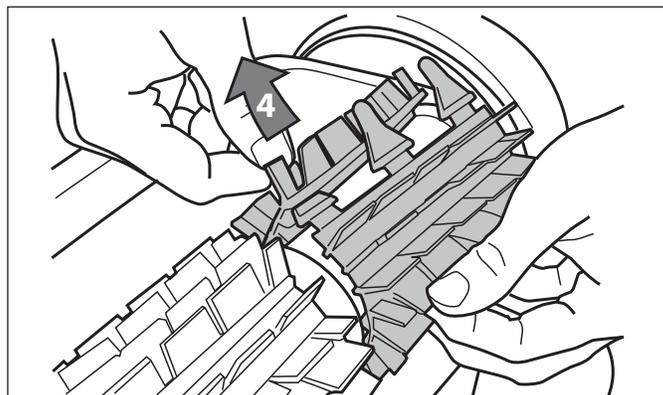

Figure 31. Pull Tabs Through Each Slot
4. Thread each tab into the slot provided and gently feed it through until the heel comes out at the other side of the slot. Refer to Figure 31.